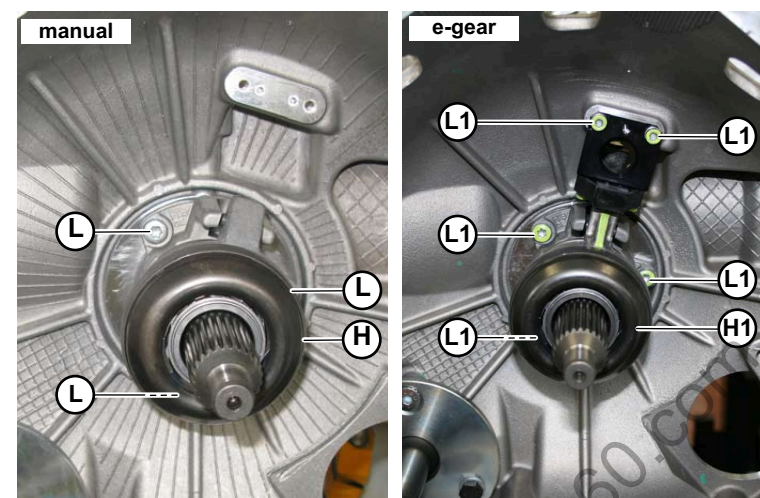

Fig.10
7. Insert the clutch sleeve unit (**H-Fig.10**), sliding it along the ribbed shaft wrapped with tape, pressing on the sleeve.
8. Tighten the three pins (**L-Fig.10**) and secure the clutch sleeve onto the clutch bell.
Tighten the five screws (**L1-Fig.10**) and secure the **e-gear** clutch sleeve onto the clutch bell.